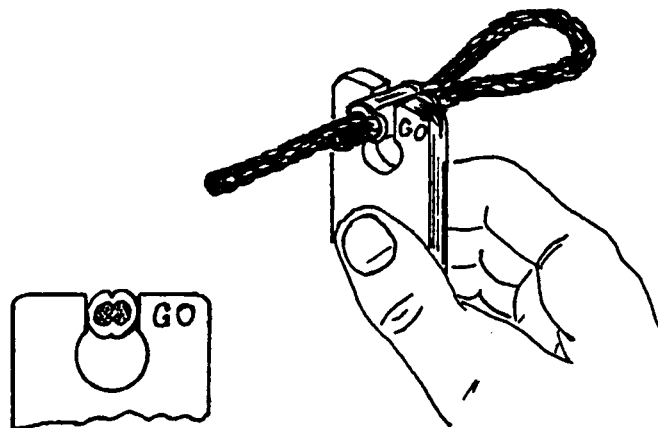

Figure 6 - Checking Compression Diameter
- 5.4.3 Occasionally check the maximum diameter of compressions using the appropriate Nicopress GO gauge (see Figure 6). Excessively large diameter compressions indicate wear of the swaging dies and requires replacement of the die set or adjustment of the hand tool according to para. 9.3, as applicable.